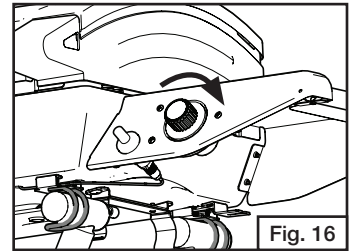

Fig. 16
- Before attaching propane cylinder make sure regulator valve is closed. (Fig. 16)